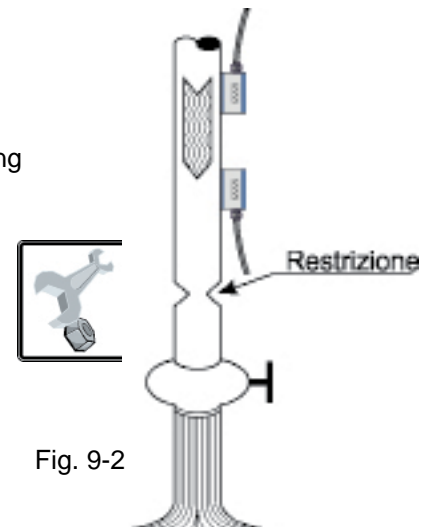

Fig. 9-2
- vertical open drain pipes with a section restriction to avoid sudden pipe emptying during flow measurement (fig.9-2)